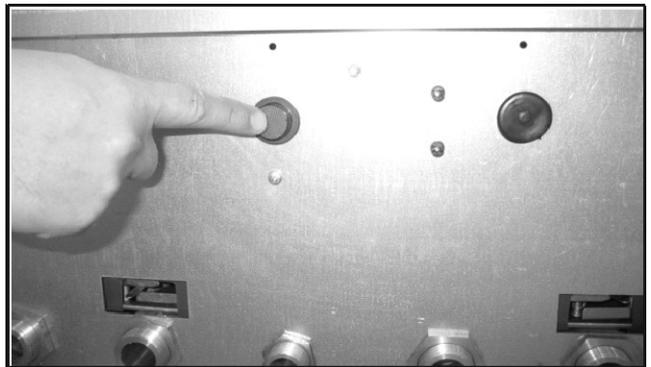

Fig 7.4.3 - Starting the Boiler
2. Switch the main boiler on/off switch located on the underside of the boiler to the on position as indicated in figure 7.4.3.